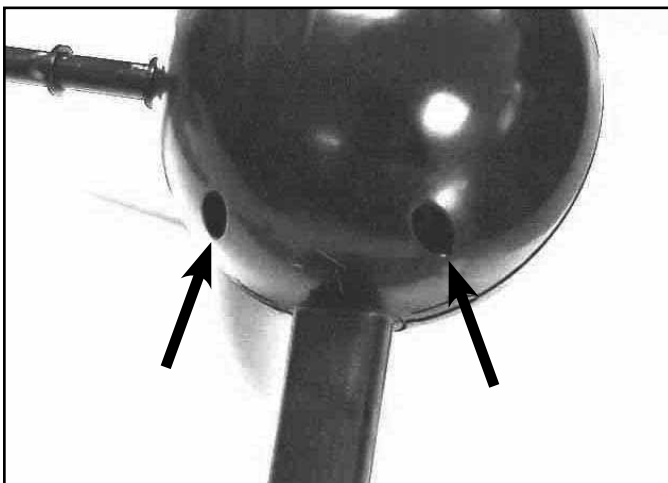

Fig 020
2. Remove the two screws on the right hand side of the chute control cover (the part that looks like a ball). Remove both halves and set aside (Fig. 020).